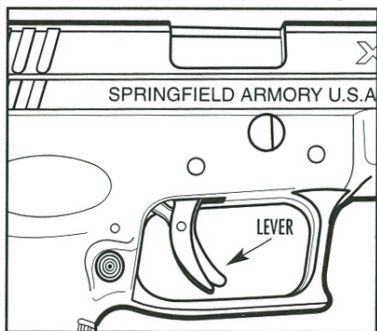
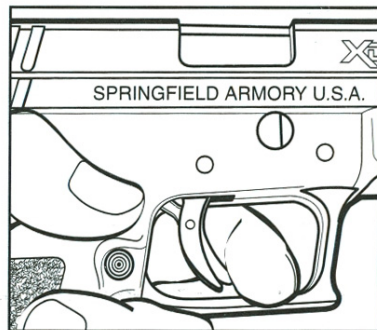

Figure 14-1
Figure 14-2
- 1. Trigger Safety** - The trigger safety locks the trigger from moving backward. A lever incorporated into the trigger (Figure 14-1) deactivates the safety when completely depressed while pulling the trigger. The trigger can only be pulled if depressed together with the trigger safety lever. (Figure 14-2.)